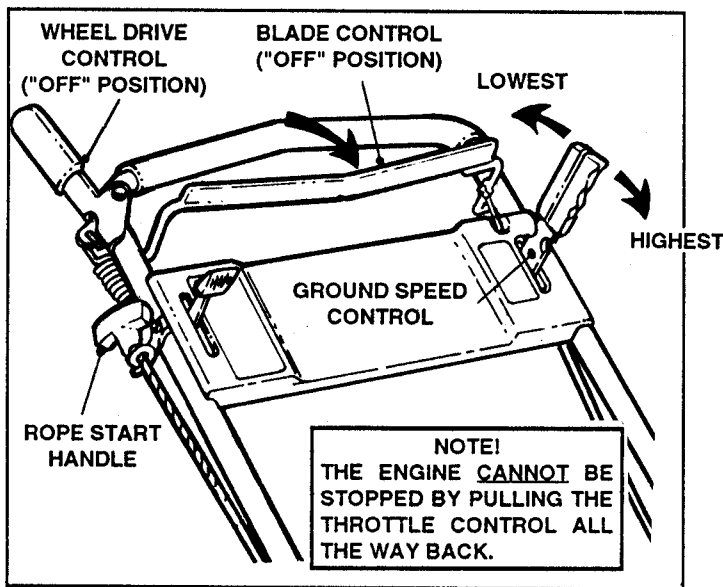

FIGURE 2
- **ENGINE:** STOP ENGINE by releasing the BLADE CONTROL. See Figure 2.
3. Pull ROPE START HANDLE until engine starts. Refer to Figure 2.